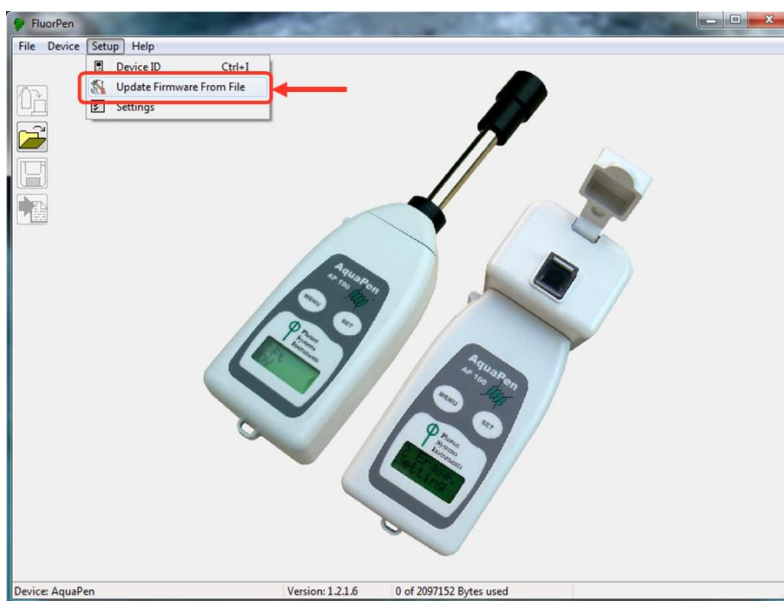

Fig. 15 Update Firmware.
- Select: **Setup > Update Firmware From File** (Fig. 15).